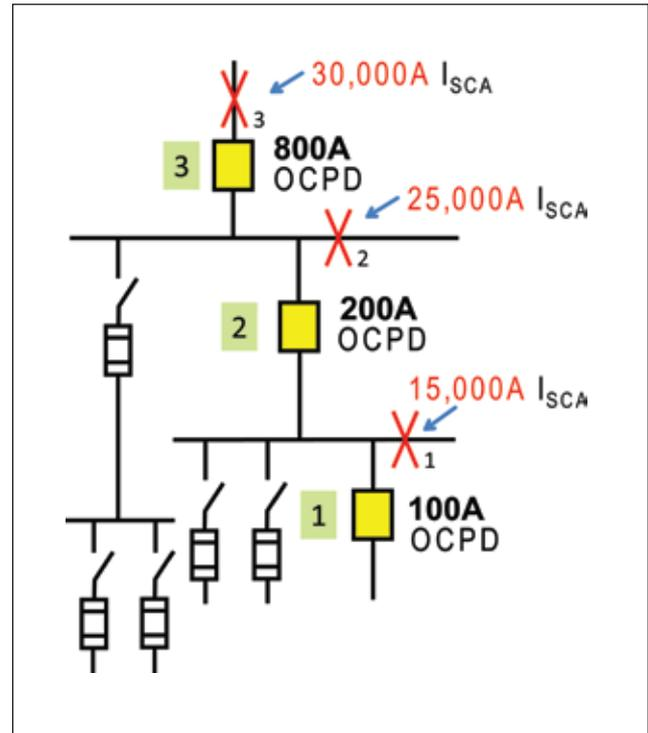

Figure 2. One-line diagram showing available short-circuit currents.  $I_{sca}$  represents short-circuit current available.
When a short-circuit study is performed, the available short-circuit current is determined at the line-side terminals of each overcurrent protective device. This information is also necessary to verify the OCPDs have adequate interrupting rating (IR) to comply with *NEC* 110.9 and that the equipment has adequate short-circuit current ratings (SCCR) to comply with *NEC* 110.10, 409.101, 440.4(B), and 670.3(A). This concept is depicted in figure 2. The  $X_1$ ,  $X_2$  and  $X_3$  represent the available short-circuit current at the line-side terminals of OCPD 1, OCPD 2, and OCPD 3, respectively. The values of 15,000 A, 25,000 A, and 30,000 A for  $X_1$ ,  $X_2$  and  $X_3$ , respectively, were selected for illustrative purposes only. These values are in RMS symmetrical amperes.